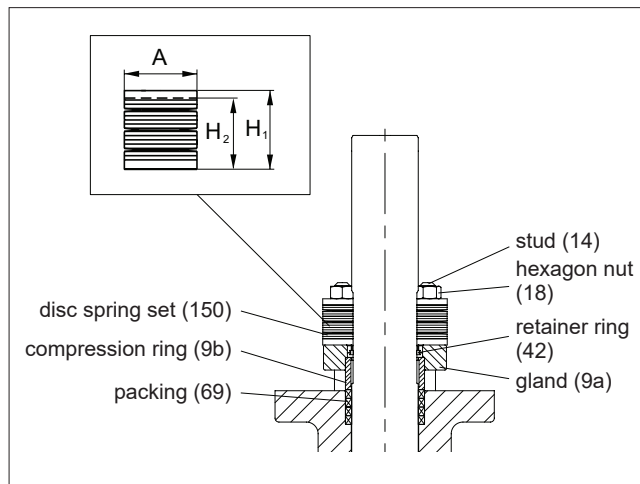

Fig. 18 Gland packing, D1F_G, D2_G
- Pre-compress the packing rings first either by tightening the gland nuts (with or without disc springs) to the torque T_t or by tightening the gland with disc springs to the height H_2 . See Fig. 18 and the value from Tables 2 and 3.